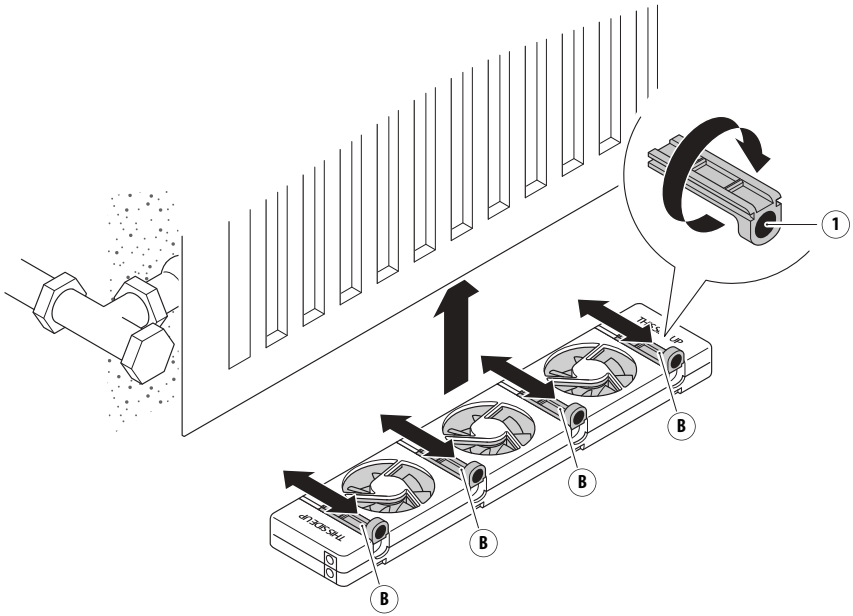

Fig. 7 - Attach the SpeedComfort (A) to a single plate radiator.
1. Position the **adjustable magnets (B)** until the **magnets (1)** are on the same side and all four **magnets (1)** are facing up. Remove the small block located opposite to the adjustable magnets in the housing. Please dispose of the block as plastic waste.
3. Use the **adjustable magnets (B)** to attach the SpeedComfort (A) to the single plate radiator (see fig. 7).